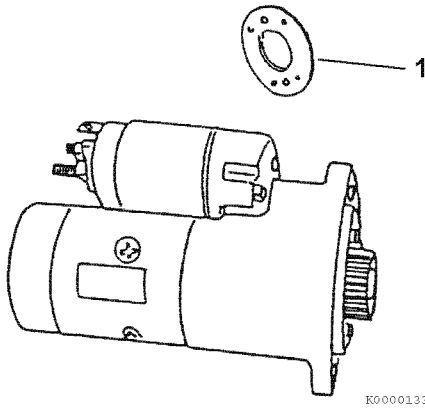

Figure 11-34
- If the measured L dimension is outside the standard range, adjust the dust covers to obtain the standard range. Dust covers (1, **Figure 11-34**) are available in 0.020 in. (0.5 mm) and 0.031 in. (0.8 mm) thicknesses.